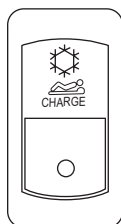

Figure 13. Charge Enable Switch (Located on dash)
- a charge enable switch located on the dash (Fig. 13)